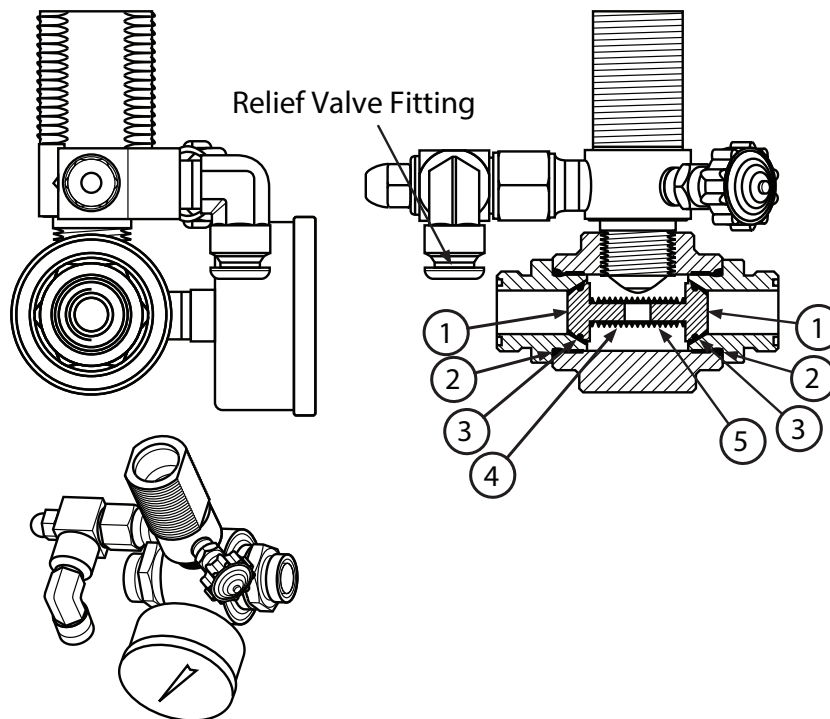

Figure 9: Check Valve Outlet Assembly
5. Remove the components of the check valve. See Figure 9 for a list of repair components.